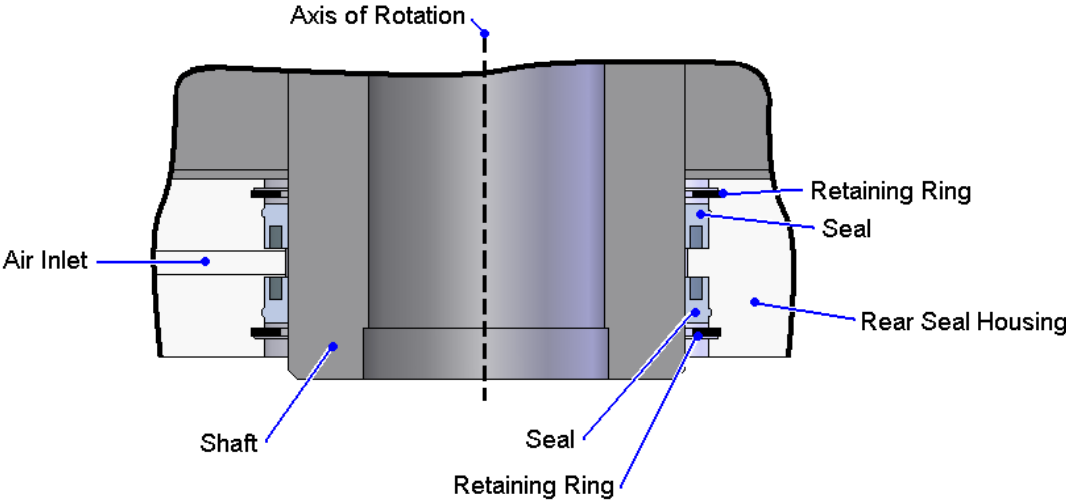

Figure 4-8: Cross-section View of Rear Seal Showing Seal Orientations
7. Lubricate the new seals with o-ring lubricant (see Section 4.2. ) and press them into the rear seal housing. Note the orientation of the seals in Figure 4-8. Check to make sure that the seals are seated completely by running a fingernail along the edge. If the seal is seated improperly a leak may result.